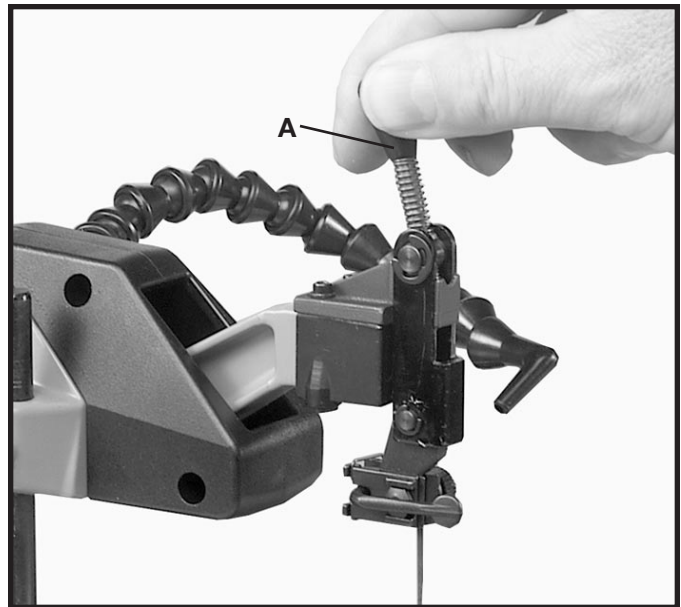
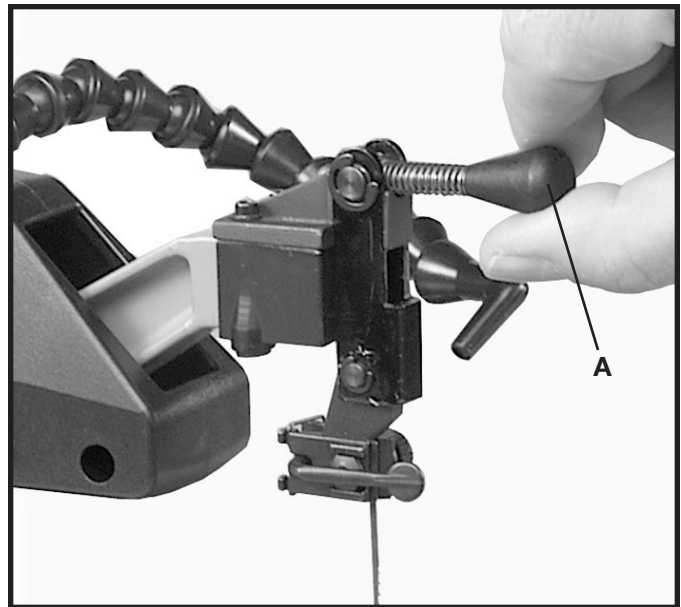

Fig. 7
Fig. 8
Tension is applied to the blade when the blade tension lever (A) Fig. 7, has been adjusted and is in the vertical position as shown. When the blade tension lever (A) is moved to the horizontal position, as shown in Fig. 8, blade tension is released.
To adjust blade tension, position lever (A) in the vertical position, as shown in Fig. 7. To increase tension, turn lever (A) clockwise and to decrease tension turn lever (A) counterclockwise. When adjusting tension, turn lever one-quarter of a turn at a time. **NOTE:** It is necessary to adjust the blade tension only when the blade is removed from both the upper and lower blade holders and a new or different type of blade is used. It is not necessary to adjust blade tension when the blade is removed and replaced in only the upper blade holder as in performing inside cutting operations. After desired tension is obtained, position tension lever (A) in the horizontal position, as shown in Fig. 7.
Adjusting the blade for proper tension is usually accomplished by trial and error. One method is to pull back on the blade tension lever (A) Fig. 8, the blade should start to have tension (resistance) when the blade tension lever is half way between open Fig. 8, and closed Fig. 7 positions. Finer blades require more tensioning while thicker blades require less tension.